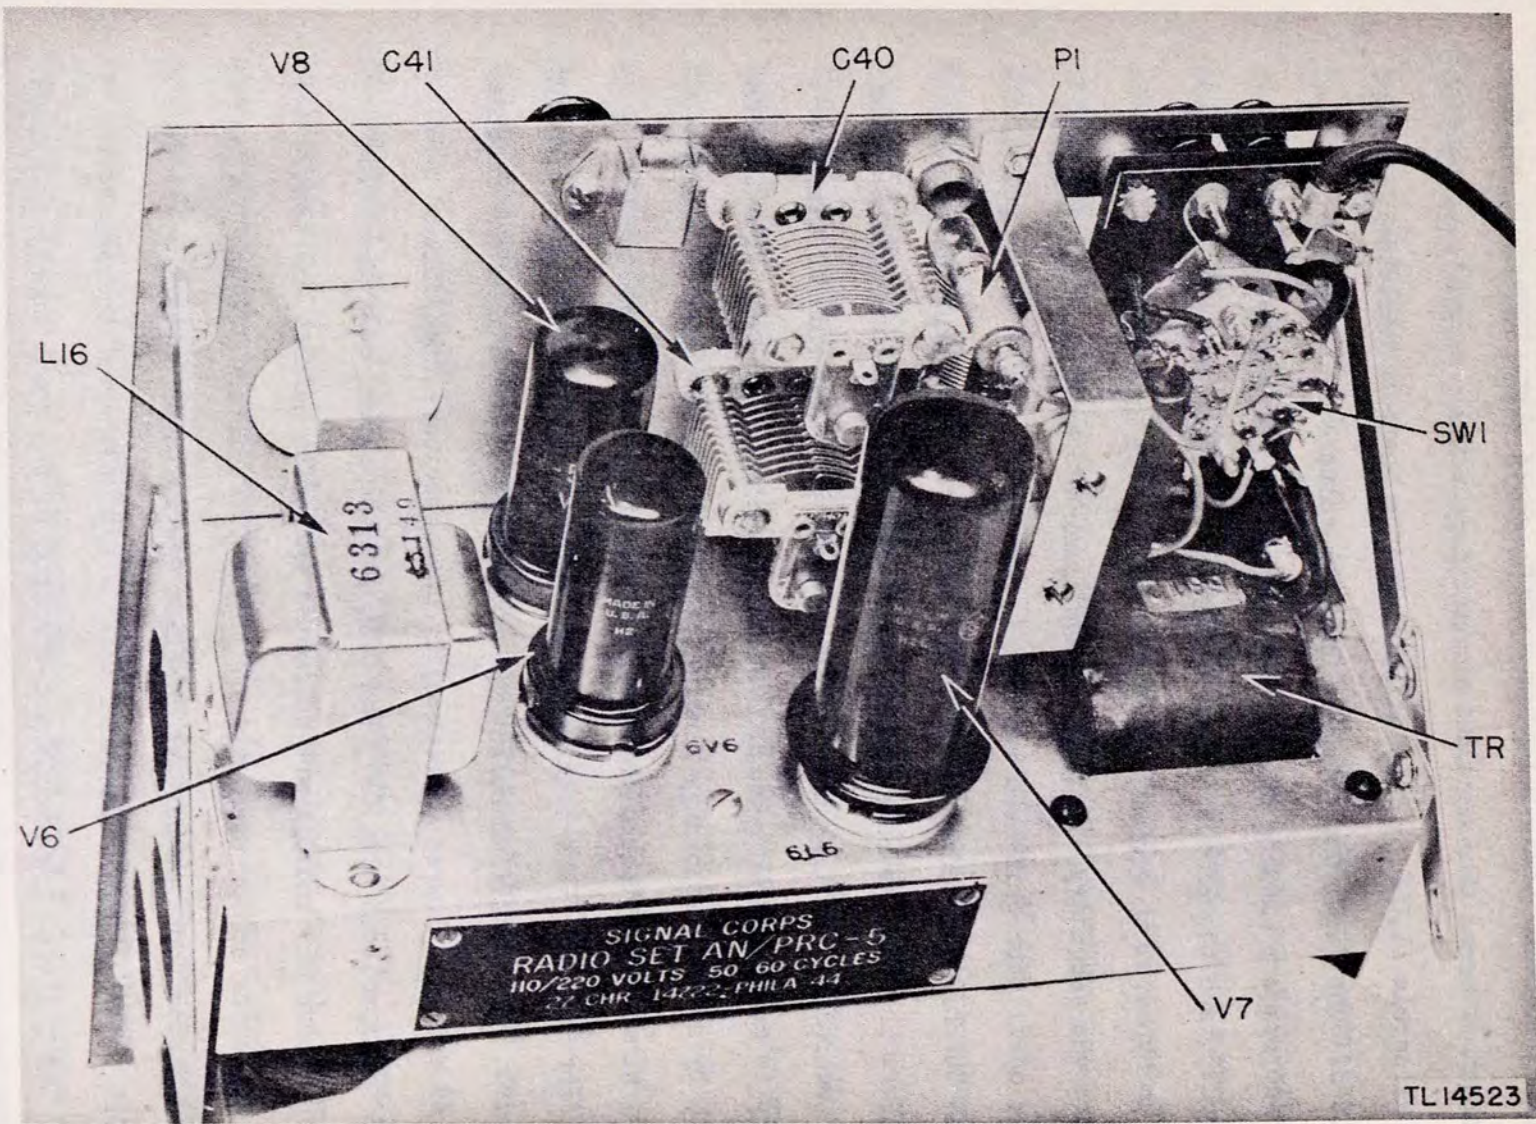

Figure 4. Radio Set AN/PRC-5, transmitter and power-supply chassis.
34. TRANSMITTER FUNCTIONING (fig. 4). In the SEND position of the OFF-REC-SEND switch, the set acts as a two-stage crystal-oscillator power-amplifier (MOPA) transmitter, exclusive of the power supply which is common to both the receiver and the transmitter. It consists of a 6V6 tube V6 in the crystal-oscillator stage, and a 6L6 tube V7 in the power-amplifier stage.